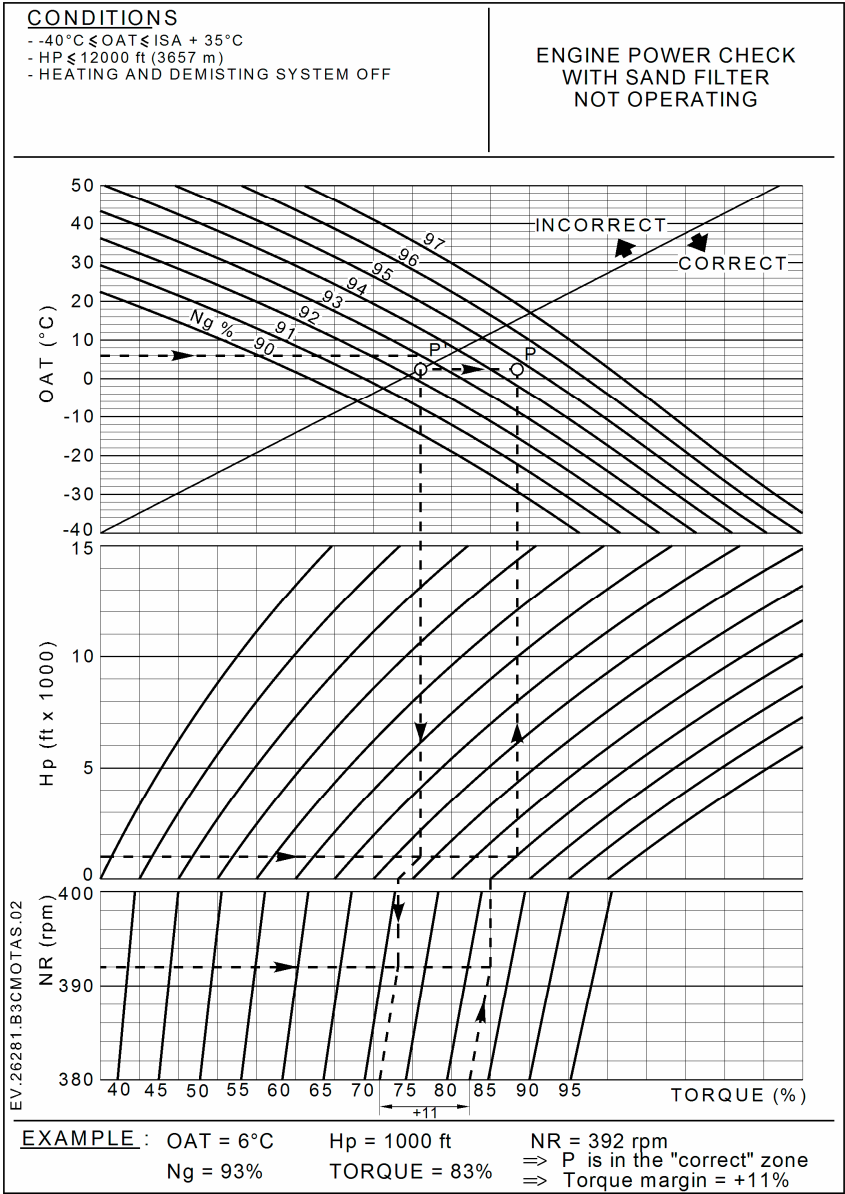

Figure 1
- Use the engine power check chart (Refer to Figure 1).